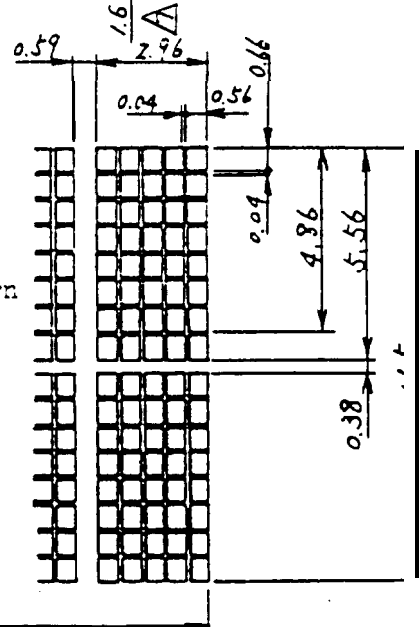

Fig.7 Module Outline Dimension.
**Character pattern details :** See Fig. 7.